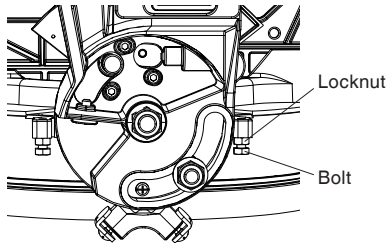

Fig. 16
- (2) Loosen the bevel lock handle and tilt the gear case completely to the left.
- (3) Using a combination square, check to see if the blade is 45° to the table.
- (4) To adjust, tilt the gear case to 0°, loosen the locknut, and turn the bolt in or out to increase or decrease the angle as shown in Fig. 16.
- (5) Tilt the gear case back to the left, and recheck alignment.
- (6) Repeat steps until the blade is 45° to the table. Once alignment is achieved, tighten locknut and bevel lock handle when alignment is achieved.